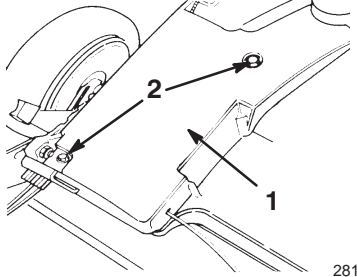

Figure 35
2. Remove the bolts that secure the belt cover to the lawn mower housing (Fig. 35).